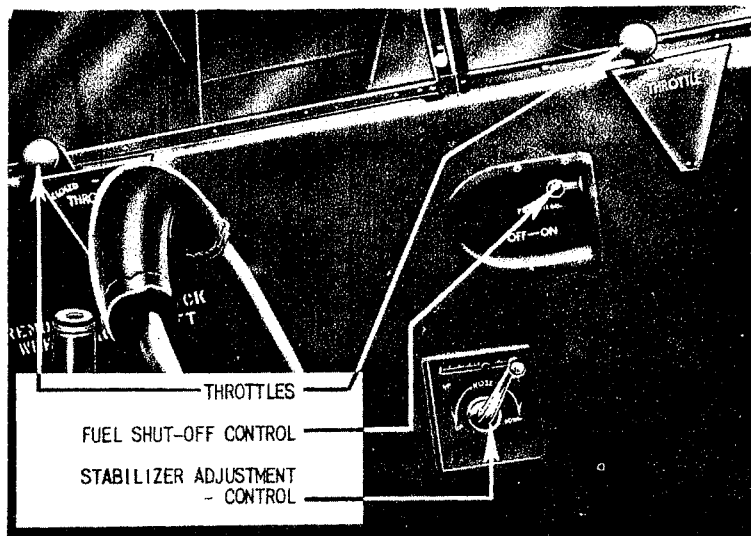

Figure 18—
f. LOWER LEFT SIDE. (See figure 18.)—The fuel throttle levers are located along the window ledge. The fuel shut-off control, which is connected to the fuel shut-off valve on the bottom of the gas tank, is recessed below the throttles. A placard, in the recessed opening, gives directions for operating the control ("Push-On;" "Pull-Off"). There is no manual mixture control provided. The stabilizer-adjustment control is located below the fuel shut-off control. The motion of the crank is transmitted to the screw at the stabilizer mechanism by an endless cable. (Turn crank clockwise to cause the nose to go down and counterclockwise to bring the nose up.)
c. Turn "ON" fuel shut-off. (See figure 18.)